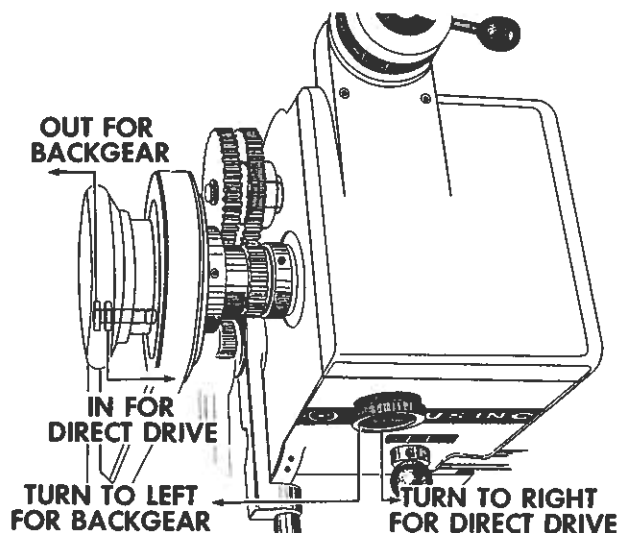

Figure 5
2. Turn back gear knob (figure 5) to the left -- rotate spindle by hand if gears do not mesh.